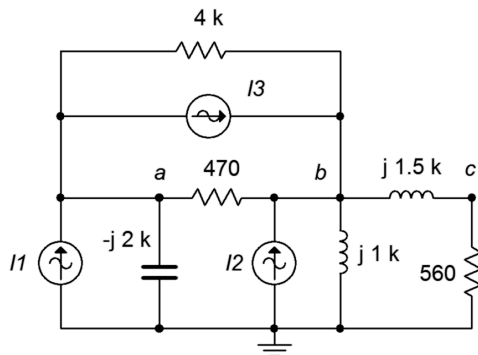

Figure 5.43
78. In the circuit of Figure 5.43, use any method or combination of methods to determine v_{ab} . $I1 = 0.05\angle 0^\circ$, $I2 = 0.1\angle 0^\circ$ and $I3 = 0.2\angle 90^\circ$.